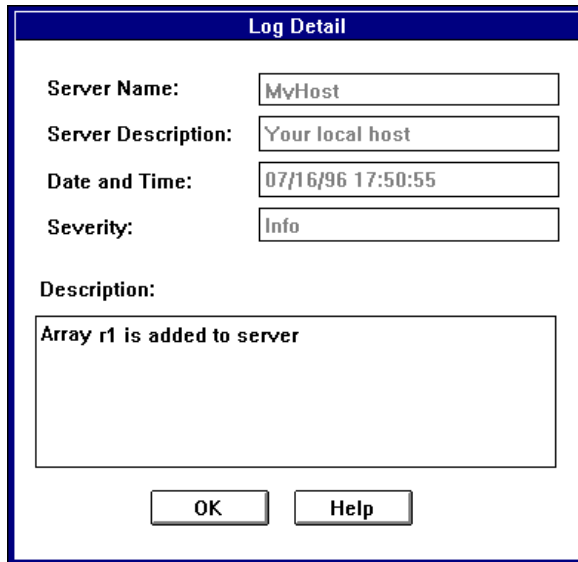

Figure 2-4. Log Detail Dialog Box
- 3 To view detailed information about an event, double-click the list entry. The Log Detail dialog box appears, as shown in Figure 2-4.
- 3 To view detailed information about an entry on the list, double-click the entry. The Log Detail dialog box appears, as shown in Figure 2-4 on page 2-8.